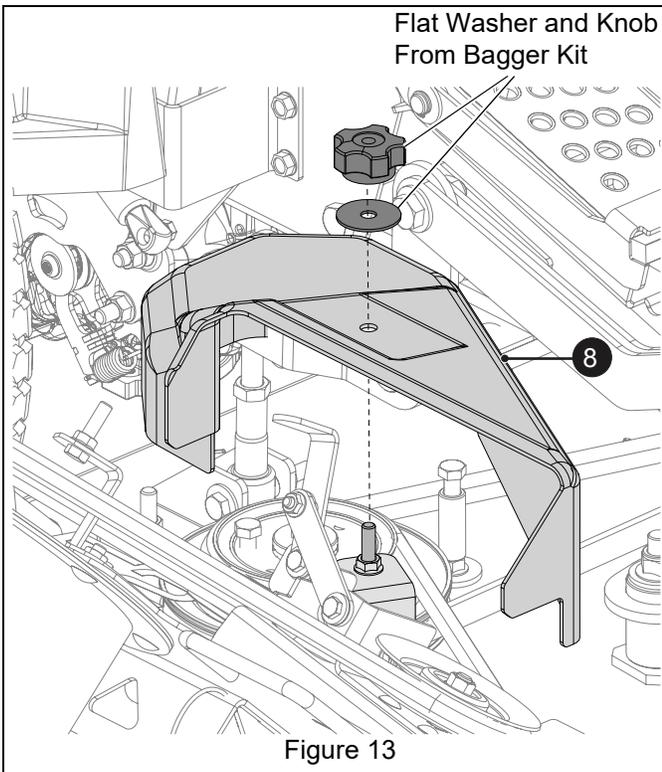

Figure 13
5. Install belt cover (item 8) on bracket and secure with one 1 1/2" washer and one knob from bagger kit. See Figure 13.